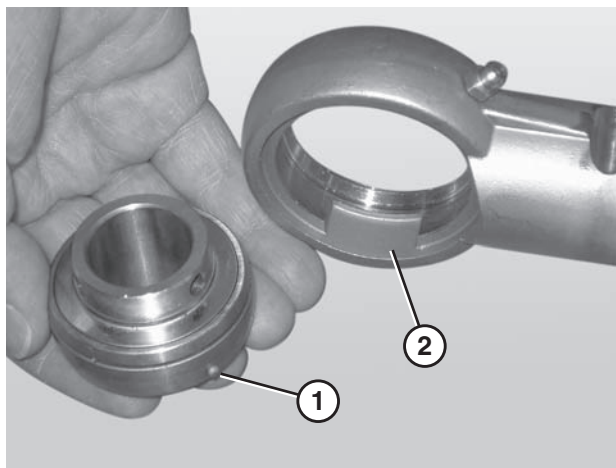

Figure 90
5. Remove the worn or damaged bearing (**Figure 90, item 1**).
*When inserting the new bearing, make sure the anti-rotation notch (**Figure 90, item 1**) on the bearing lines up with the groove inside the housing (**Figure 90, item 2**).*